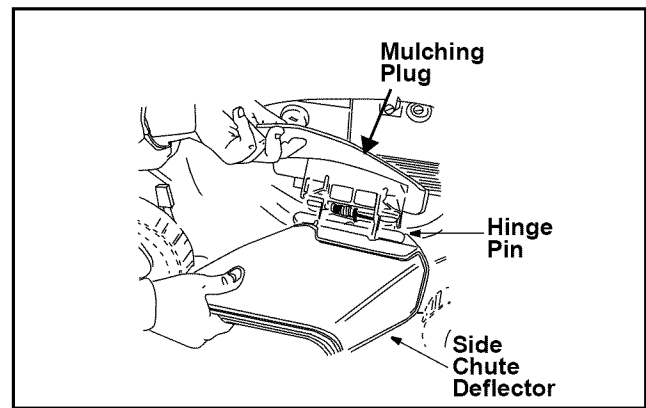

Figure 10
- Your mower has been shipped as a mulcher. To convert it to a side-discharge mower, lift the mulching plug, lift the side-discharge deflector. Slide the two hooks on the side-discharge deflector under the hinge pin on the mulching plug assembly. Lower the mulching plug. See Figure 10 .